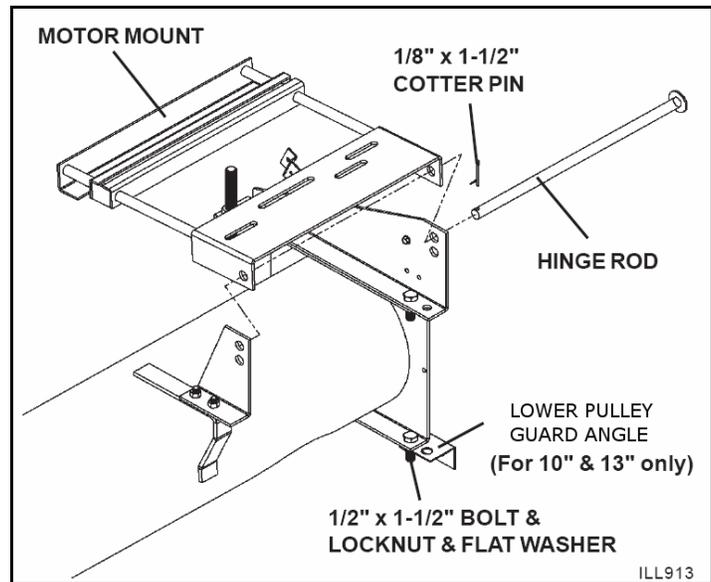

Figure 3.5
4. Place motor mount assembly in between the two mount plates, and insert hinge rod as shown in Figure 3.5. Secure hinge rod with a 1/8" x 1-1/2" cotter pin.
- ➔ 5. **For 10" and 13" augers**, attach lower pulley guard angle to the head plate with two 1/2" x 1-1/2" bolts and locknuts and 1/2" flat washers (Figure 3.5). Tighten securely.